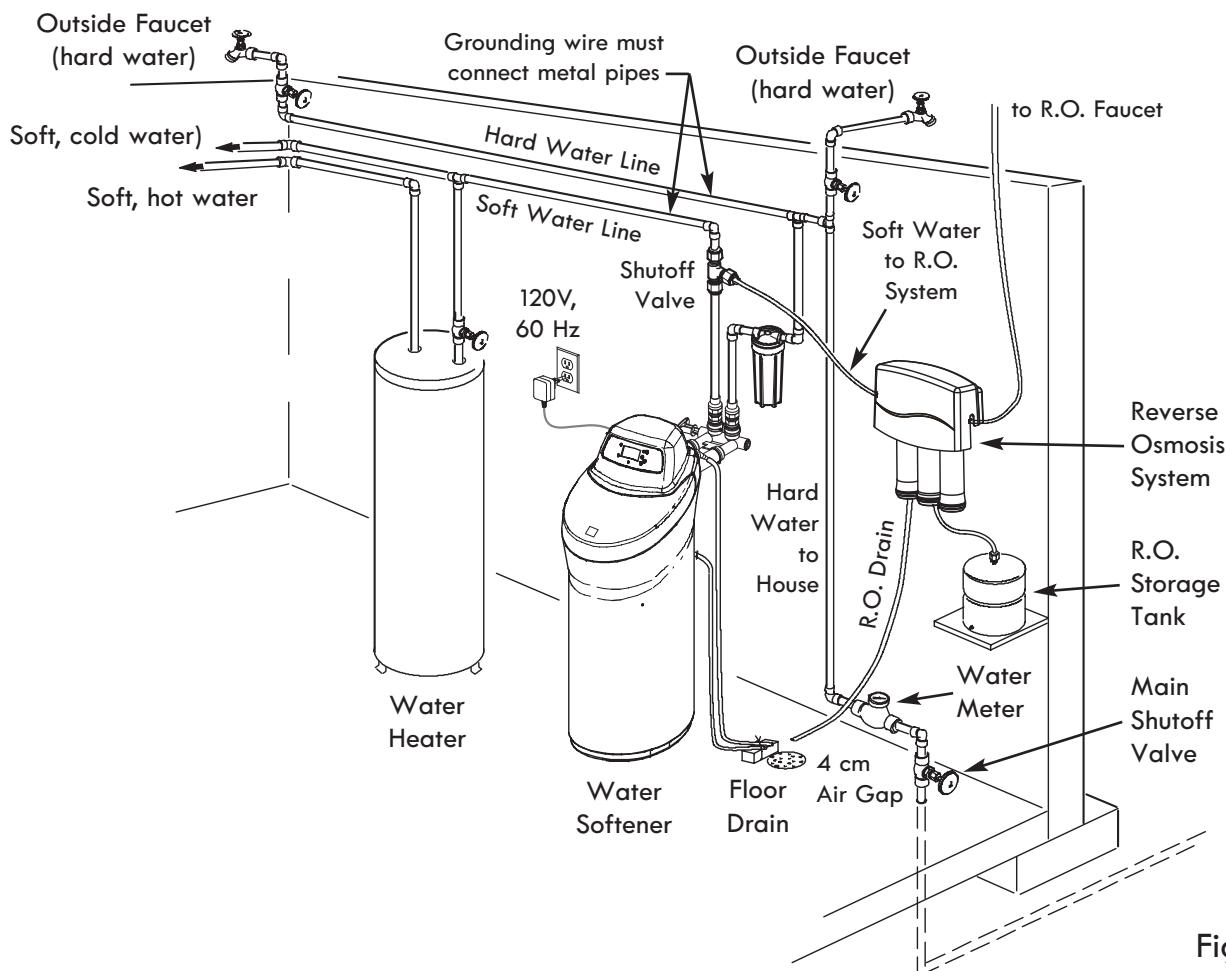

Figure 3
2. Place as close as possible to a water drain such as a floor drain, laundry tub, sump or standpipe (See Fig. 3).
4. Keep outside faucets on hard water to save soft water and salt. See Fig. 3.
7. A grounded, 120V, 60 Hz electrical outlet is needed near the softener to plug in the power supply (See Fig. 3). Be sure the outlet and power supply are in an inside location, protected from wet weather. Use a continuously "live" outlet, which cannot be accidentally switched off.